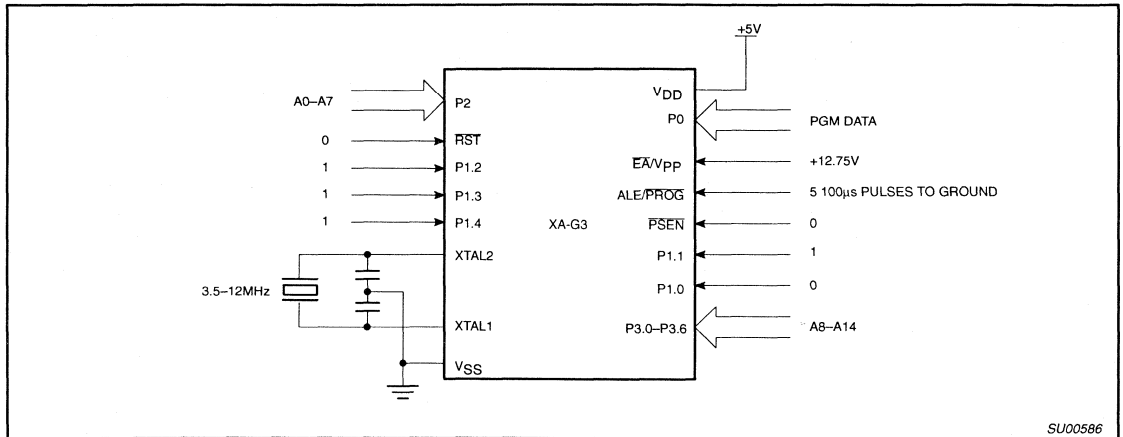
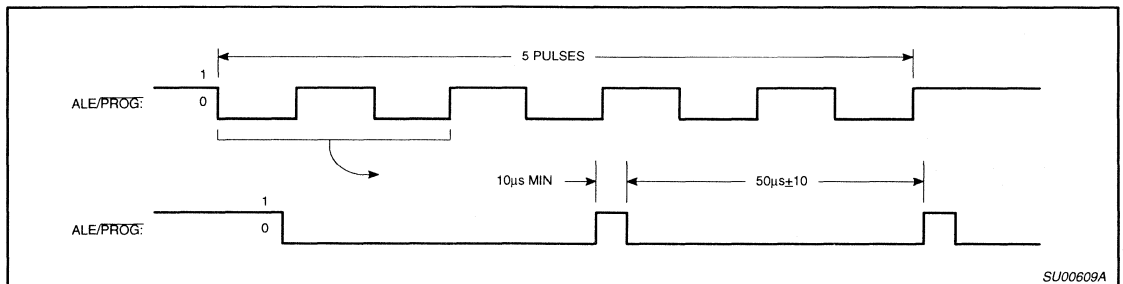
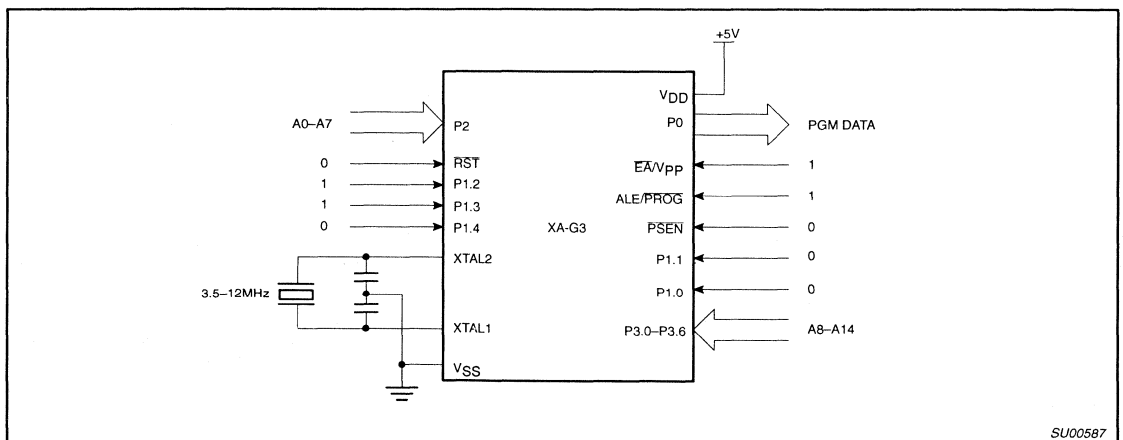

Figure 24. Programming Configuration for XA-G3
Figure 25. PROG Waveform
Figure 26. Program Verification for XA-G3
Table 5 shows the logic levels for reading the signature byte, and for programming the code memory and the security bits. The circuit configuration and waveforms for quick-pulse programming are shown in Figures 24. Figure 26 shows the circuit configuration for normal code memory verification.
The setup for microcontroller quick-pulse programming is shown in Figure 24. Note that the XA-G3 is running with a 3.5 to 12MHz oscillator. The reason the oscillator needs to be running is that the device is executing internal address and program data transfers.
The address of the EPROM location to be programmed is applied to ports 2 and 3, as shown in Figure 24. The code byte to be programmed into that location is applied to port 0. RST, PSEN and pins of port 1 specified in Table 5 are held at the 'Program Code Data' levels indicated in Table 5. The ALE/PROG is pulsed low 5 times as shown in Figure 25.
If security bits 2 and 3 have not been programmed, the on-chip program memory can be read out for program verification. The address of the program memory locations to be read is applied to ports 2 and 3 as shown in Figure 26. The other pins are held at the 'Verify Code Data' levels indicated in Table 5. The contents of the address location will be emitted on port 0.
* FOR PROGRAMMING CONDITIONS SEE FIGURE 25.
FOR VERIFICATION CONDITIONS SEE FIGURE 26.